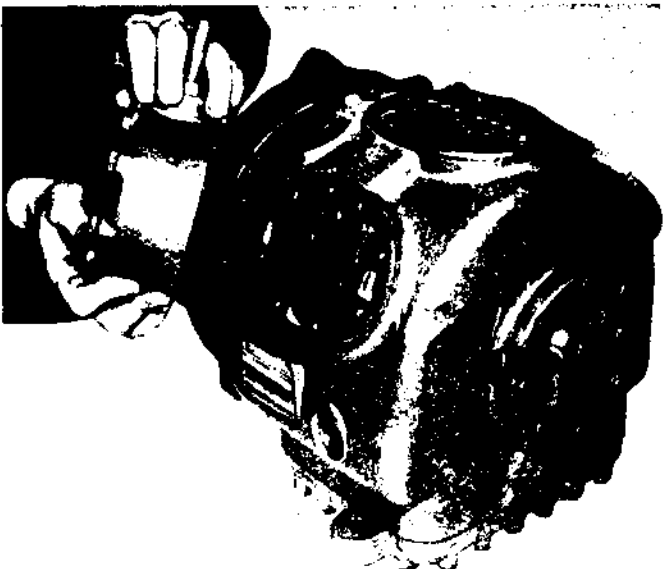

Figure 3-1. Cylinder Head Removal
a. Loosen cylinder head capscrews. If the head is stuck, tap it lightly with a wooden or lead mallet to free it. Be careful not to drop the head or damage the gasket sealing surface. Remove cylinder head capscrews and gasket. See figure 3-1.